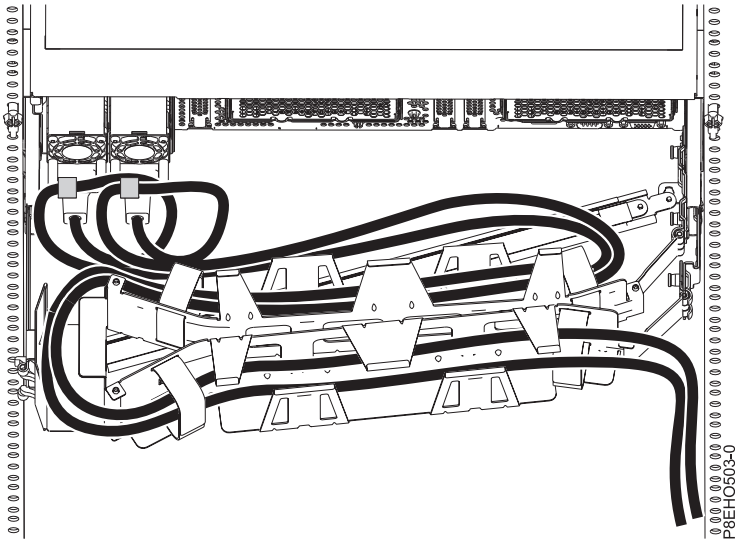
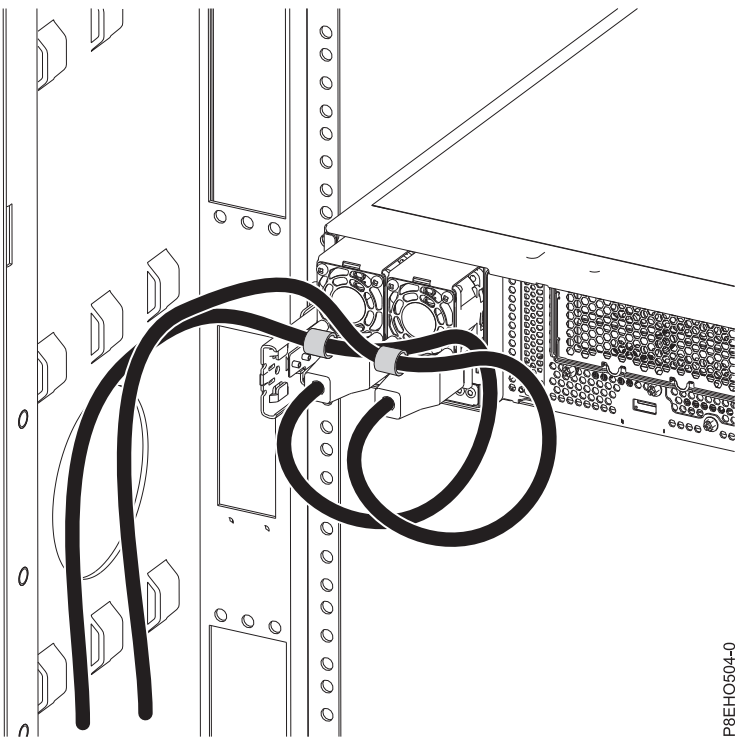

Figure 114. Power cord loop with cable management arm routing. The power cord loops counter-clockwise to the right.
Figure 115. Power cord loop with sidewall routing. The power cord loops counter-clockwise to the left.
3. Disconnect the power cords from the power supply handle. Unfasten the hook and loop fastener that ties the power cord to the power supply handle. Note how the power is looped; you will need to make that same loop when you reattach the power cords. There are two types of loops, detailed in Figure 114 on page 114 and Figure 115 on page 114.